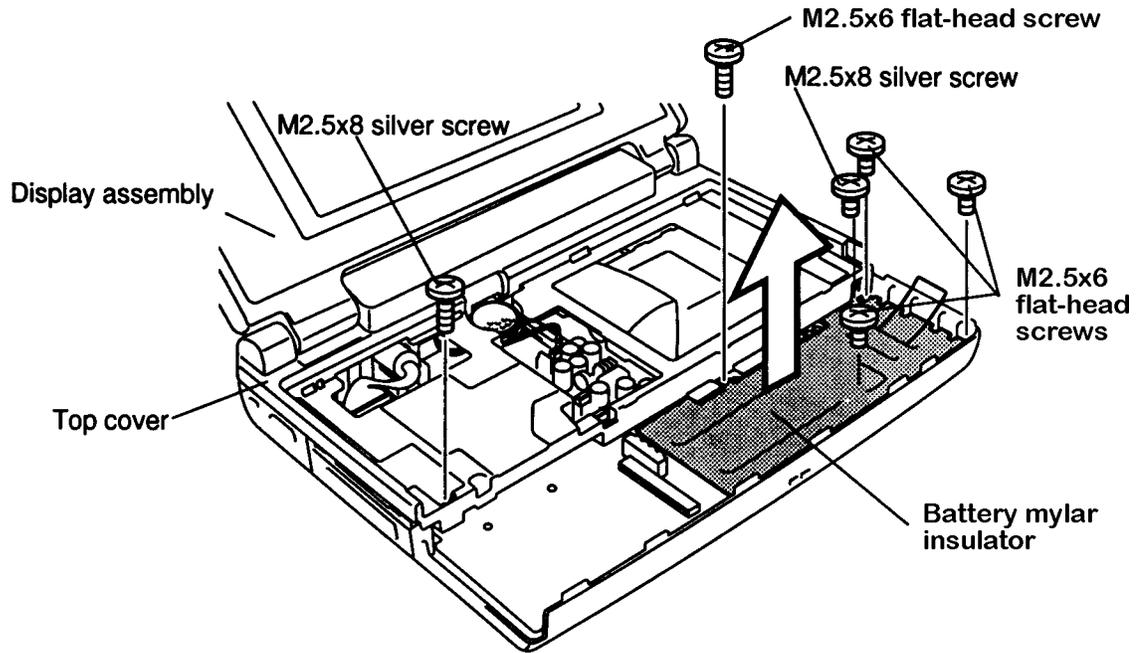

Figure 4-15 Removing the battery pack frame
5. Lift the battery's mylar insulator from right to left, remove the **four flat-head M2.5x6 screws** on the **battery pack frame**, and lift out the frame (Figure 4-15).
6. Remove **two M2.5x8 silver screws** on the top cover (Figure 4-15).
7. Secure the **two M2.5x8 silver screws** on the top cover (Figure 4-15).
8. Place the battery pack frame in the chassis and secure it with **four flat-head M2.5x6 screws** (Figure 4-15).